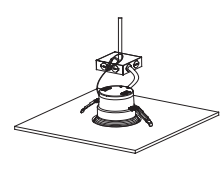

Fig. 10
- Step 5: Once lamp is inside the opening, release the housing clips and continue pushing lamp into opening until securely fixed and flush with ceiling ( Fig.10).